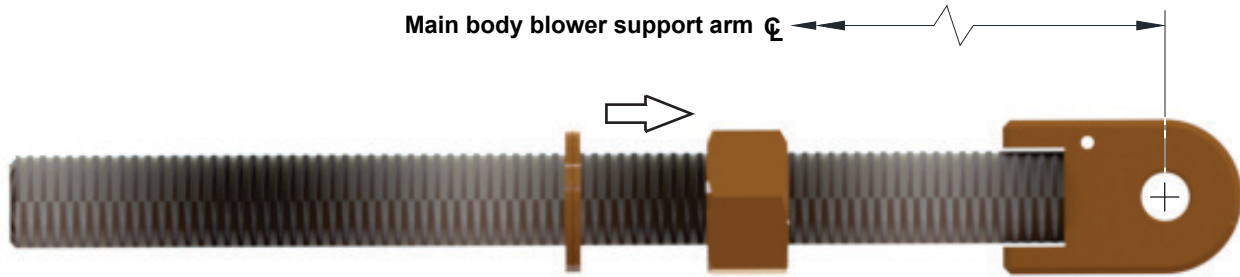

Figure 7: Threading the jam nut
- Prior to threading the blower support arm adjustable lug on the blower support arm cylinder body, thread the 1-1/2-6UNC jam nut approximately 1/4" of the way up the thread on the blower support arm adjustable lug and slide the 1-1/2" NordLock washer down on the nut as shown in Figure 7.